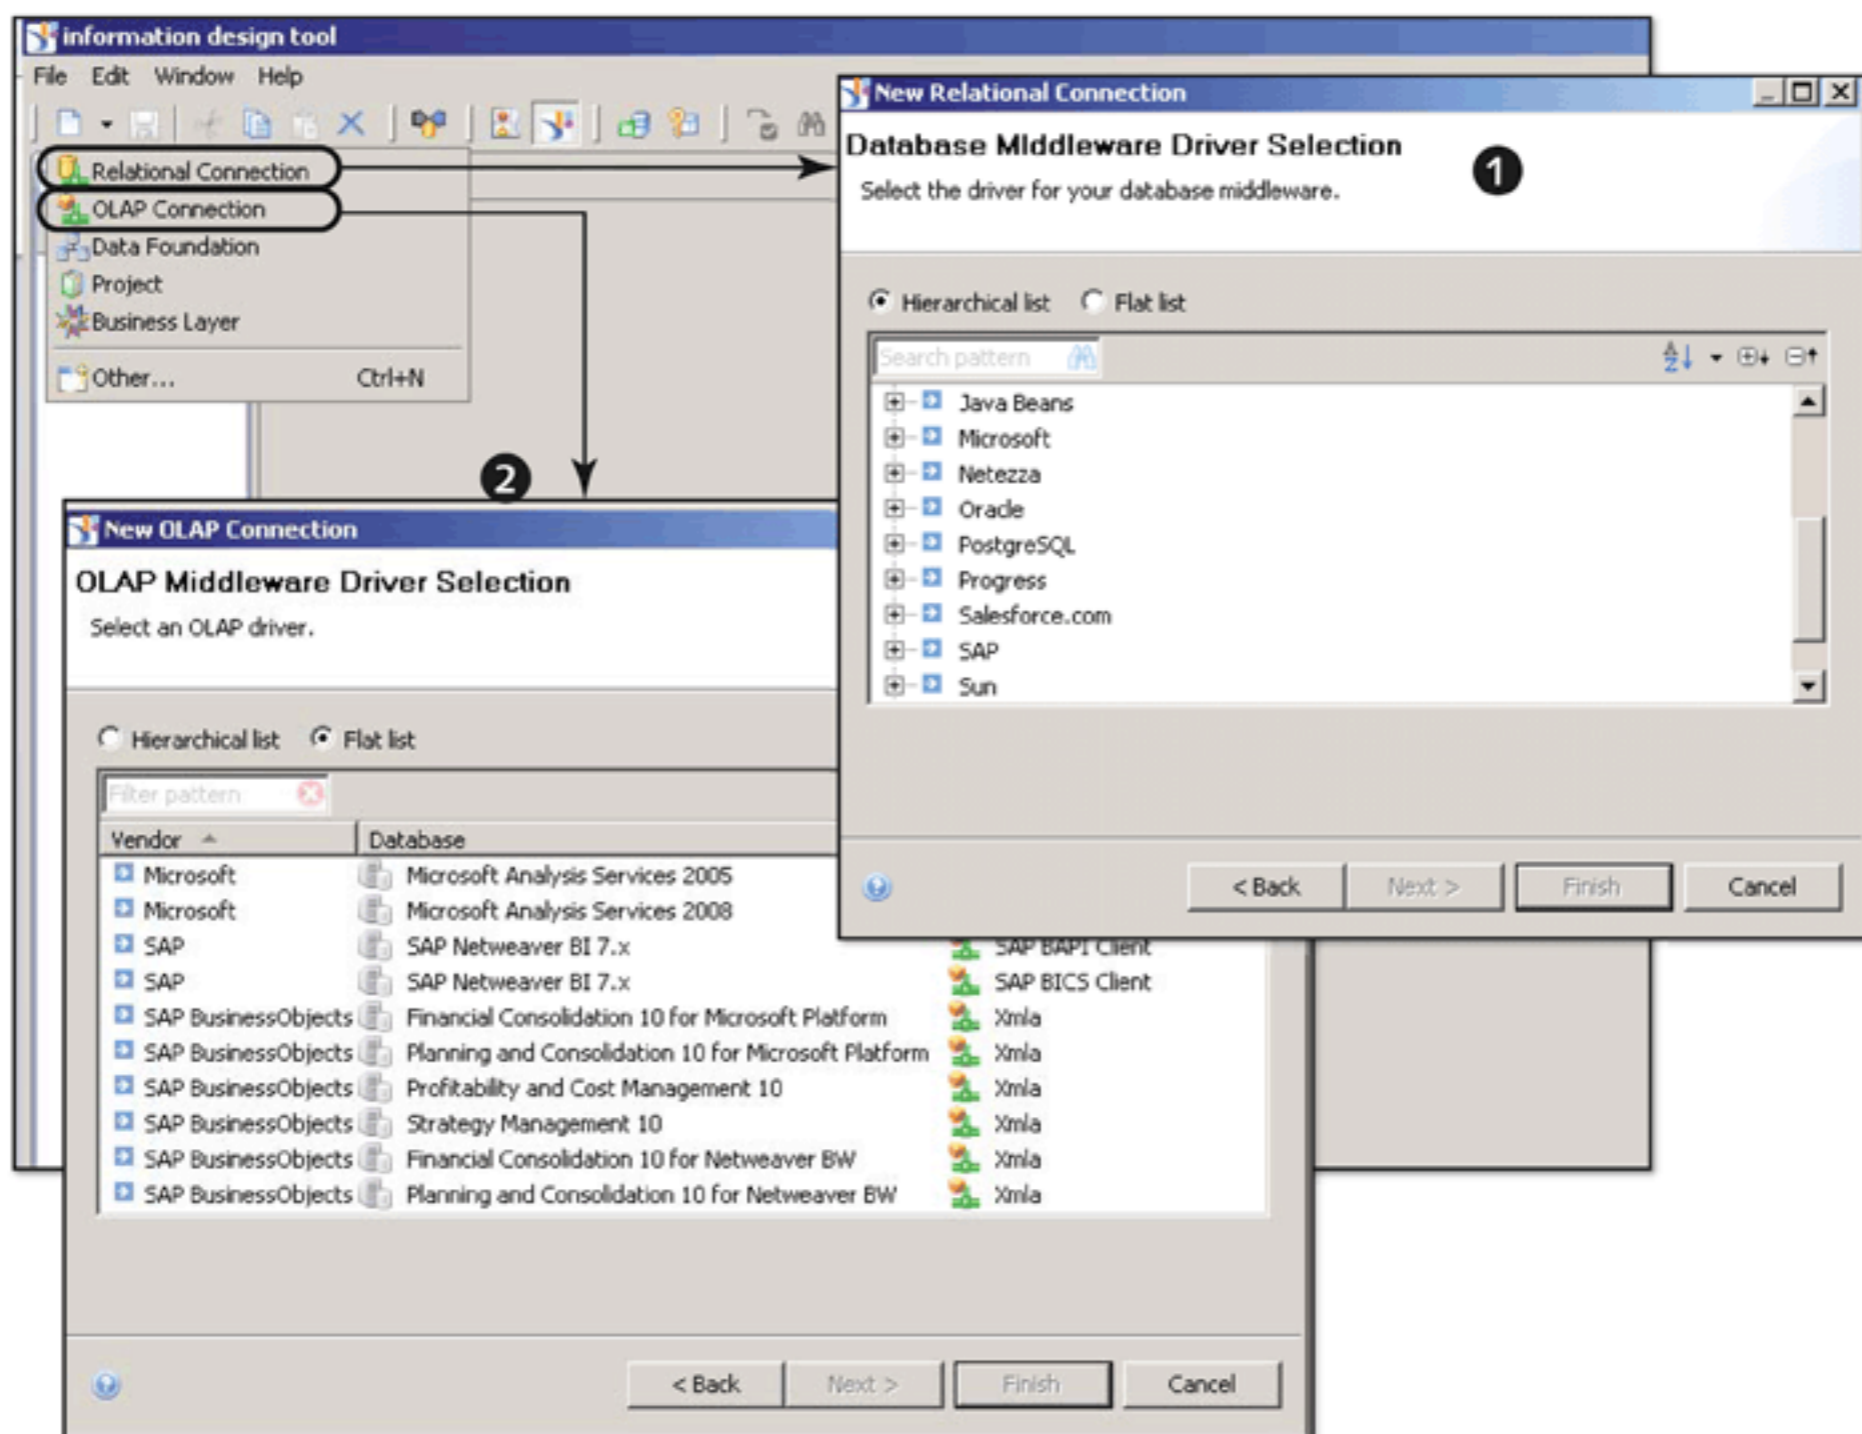

Figure 13.3 Define a Connection
The first logical step in the creation of the semantic layer is to connect the IDT with desired data sources (see Figure 13.3). This connection can be either a relational connection (1) or a connection to OLAP data sources (2).